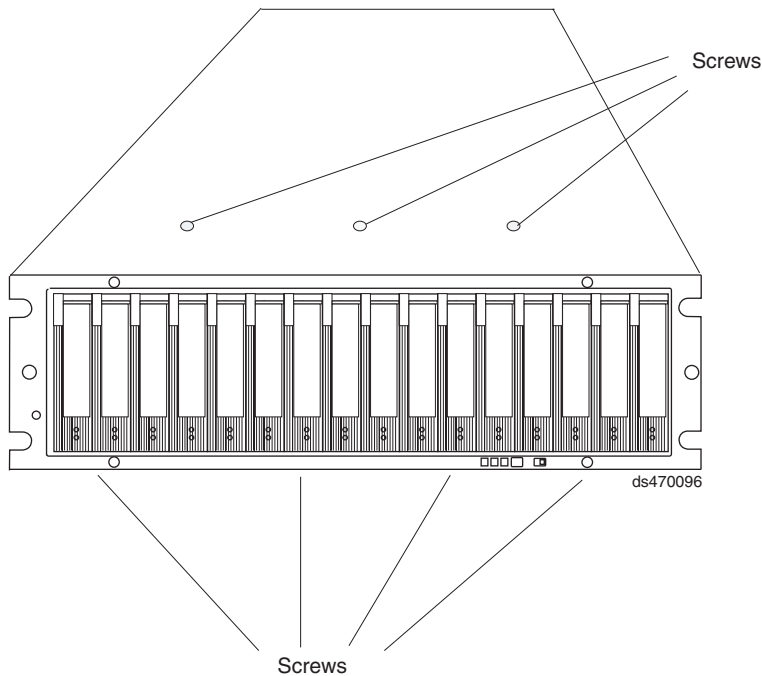

Figure 69. Screws holding the top and bottom sides of the chassis to the cage frame
14. Pull the chassis outward from the front of the rack and remove from the rack. Place it on a level surface. Look for a row of three Phillips screws on top of the chassis and a row of four Phillips screws on the bottom of the chassis, as shown in Figure 69 on page 132. Remove the seven Phillips screws using the #1 Phillips screwdriver. Save these screws.
19. Install the seven Phillips screws (three on top and four on bottom) that hold the front cage frame to the EXP810 chassis that you removed in step 14 on page 131, as shown in Figure 69.